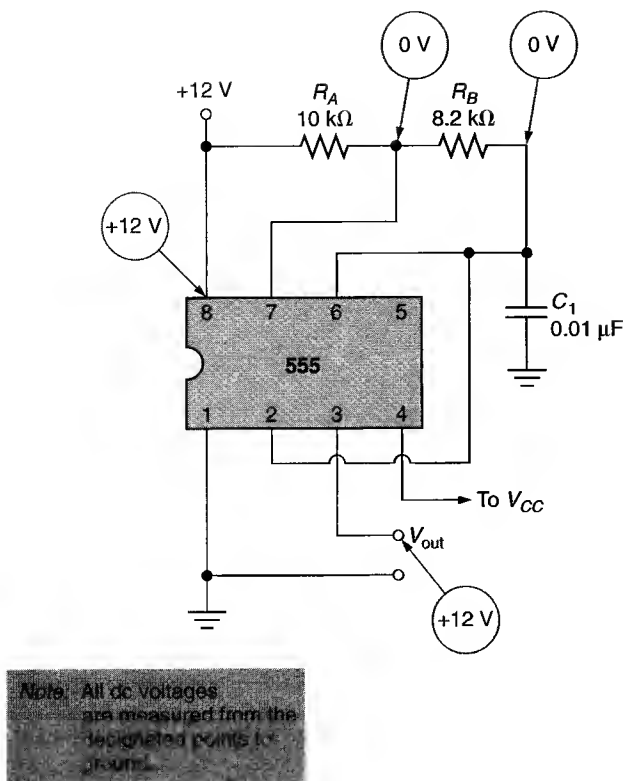

FIGURE 19.68
37. The free-running multivibrator in Figure 19.68 has the dc readings indicated when power is applied. Discuss the possible cause(s) of the problem.